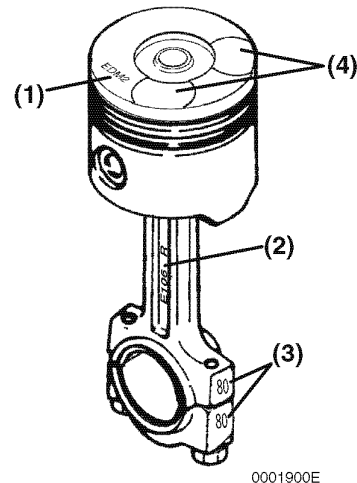

Figure 8-88
NOTICE: The piston and connecting rod must be assembled with the correct orientation. When correctly assembled, the identification mark (**Figure 8-88, (1)**) stamped into the top of the piston will be facing the same direction as the embossed mark (**Figure 8-88, (2)**) cast into the beam of connecting rod, and the valve reliefs (**Figure 8-88, (4)**) in the top of the piston will be facing in the same direction as the matching marks (**Figure 8-88, (3)**) on the connecting rod and connecting rod cap.
Note: The actual appearance of the match marks will vary but they will always be in the same locations (**Figure 8-88**).